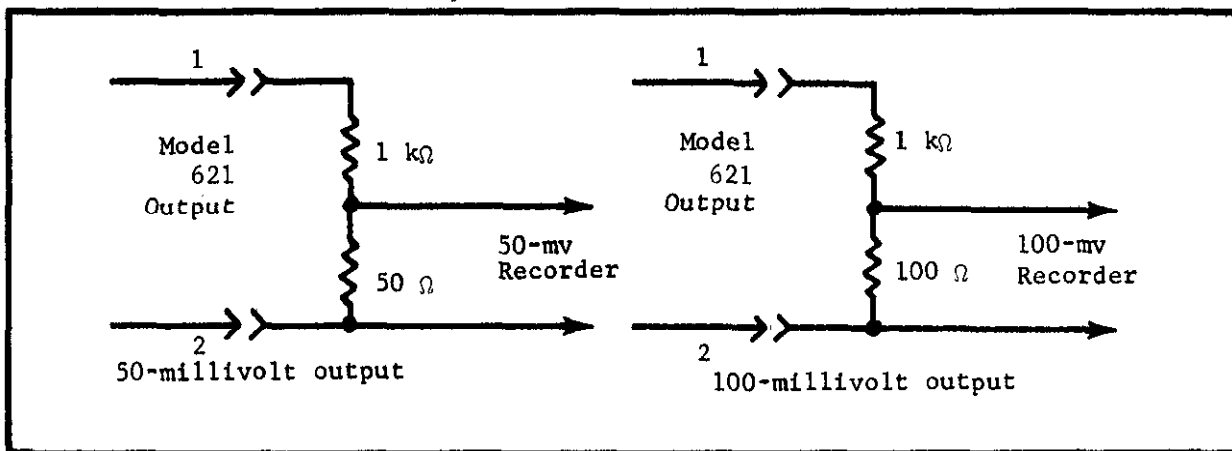

FIGURE 1A. Divider Circuits Across Model 621 Output. The dividers are for driving 50 and 100-millivolt recorders. Use 1% resistors in the dividers.
(2) 1-Milliampere Output. Connect 1-milliampere instruments, such as Esterline Angus, General Electric or Texas Instrument Rectiriter, to the OUTPUT Receptacle. Pin no. 1 is the positive terminal. Set the Output Switch to 1 MA. The output is approximately 1 milliampere for full-scale meter deflection on any range. For exact output, adjust the meter on the 0.1-volt range with the ZERO Control for full-scale deflection. Then adjust the 1 MA CAL Control until the recorder reads full scale. Check the recorder and meter zero and repeat adjustment if necessary. The METER Switch does not reverse the output polarity.
(3) For servo rebalance recorders, use a divider across the Model 621 OUTPUT Receptacle. See Figure 1A. Set the Output Switch to 1 MA. Use the 1 MA CAL Control to trim the output for full-scale recorder deflection. Operation is the same as for current outputs.